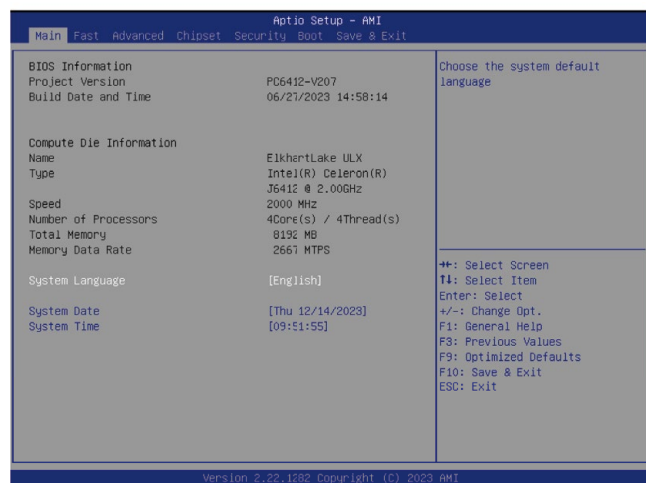

Figure 2-9-1
① During startup, press F2 continuously to enter the BIOS interface, Figure 2-9-1.